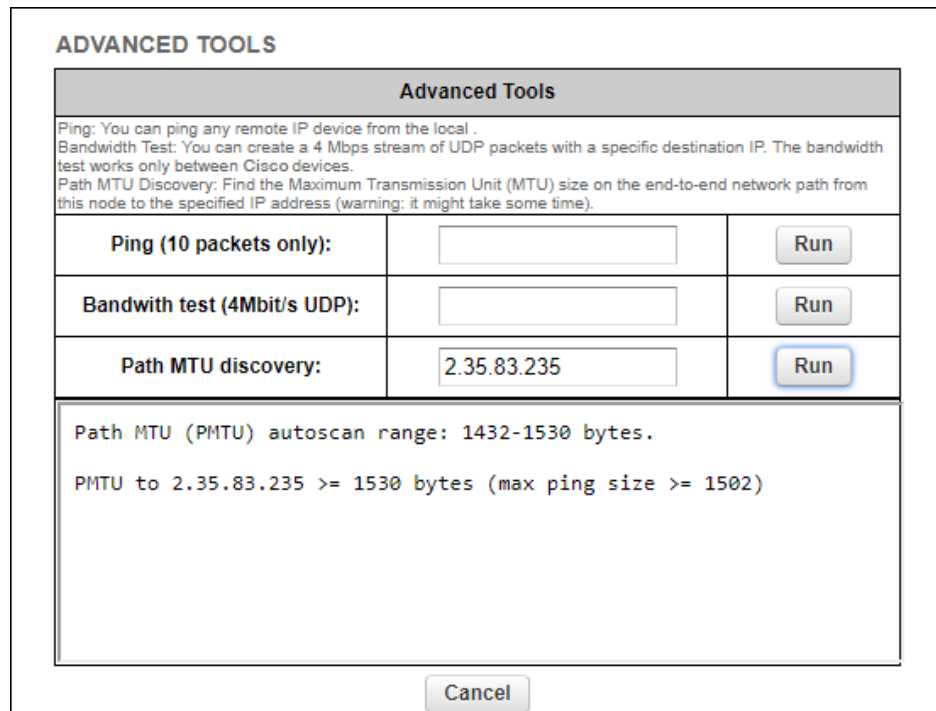

Figure 27. Advanced Tools window (Path MTU test tool)
2. Enter the IP address of the second unit in the **Path MTU discovery** field (Figure 27 (page 70)).